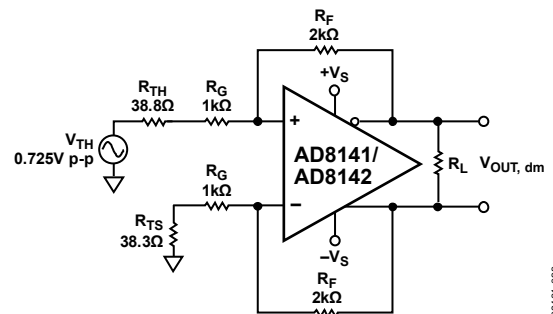

Figure 40. Thevenin Equivalent and Matched Gain Resistors
1.  $R_{TH} = R_S || R_T = 38.8\text{ }\Omega$ , and  $R_{TS} = 38.3\text{ }\Omega$ . Note that  $V_{TH}$  is greater than 0.7 V p-p, which was obtained with  $R_T = 75\text{ }\Omega$  alone. The modified circuit with the Thevenin equivalent of the terminated source and  $R_{TS}$  in the lower feedback loop is shown in Figure 40.
Figure 40 presents a tractable circuit with matched feedback loops that can be easily evaluated.